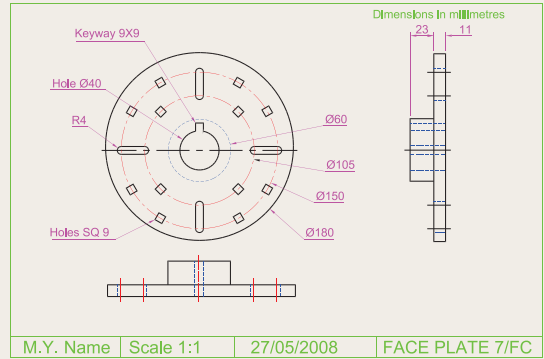
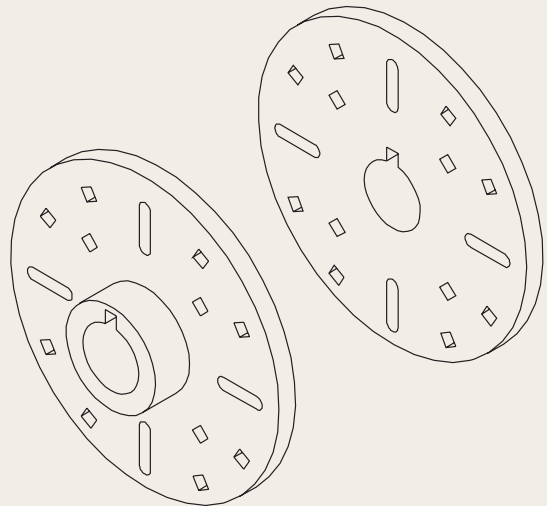

Fig. 13.18 Exercise 5 – dimensions
Fig. 13.19 Exercise 5
5. Working in a **Three: Left** viewport setting, construct a 3D model of the faceplate to the dimensions given in Fig. 13.18. With the **Mirror** tool, mirror the model to obtain an opposite facing model. In the **Isometric** viewport call the **Hide** tool (Fig. 13.19).